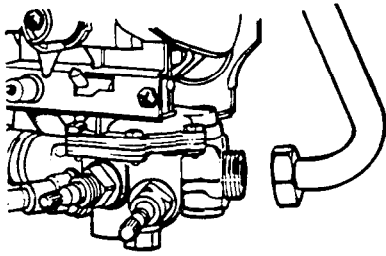

Fig.16
a) Remove the right hand heating body leg from the water section and remove the venturi by unscrewing. Clean or replace as necessary (see fig. 16).